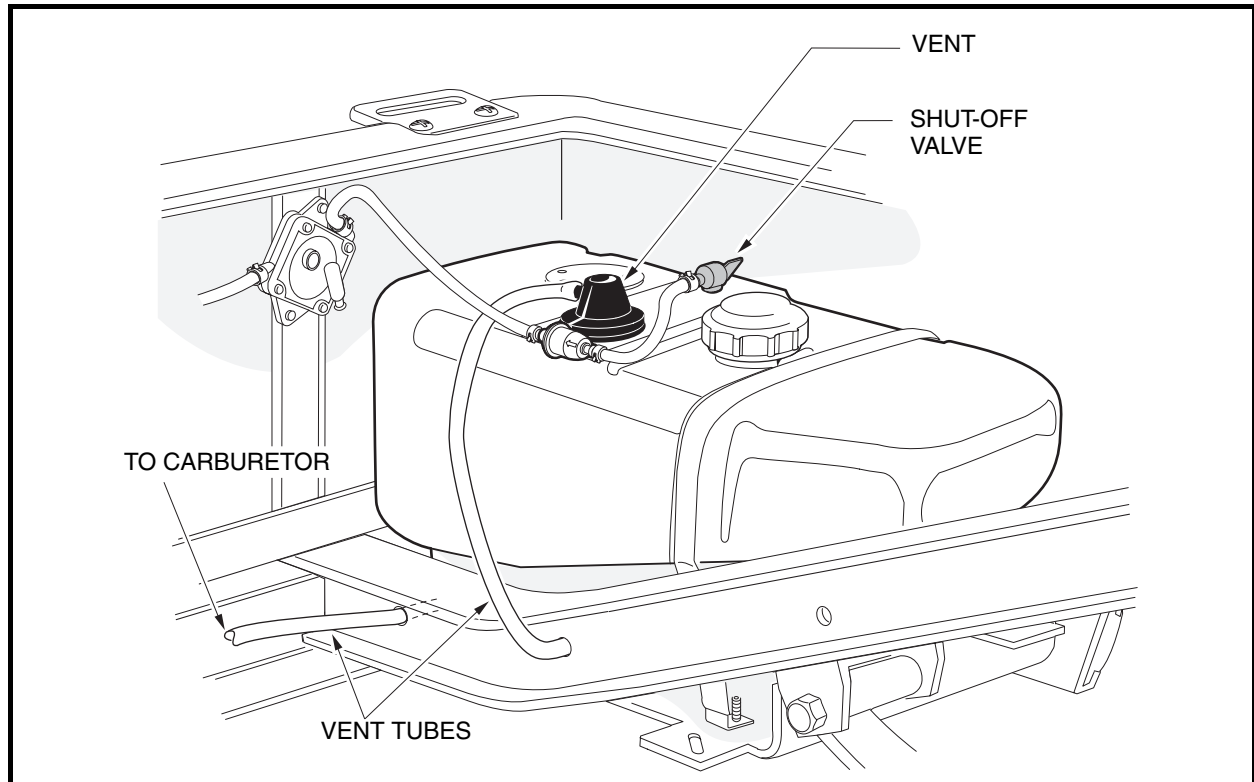
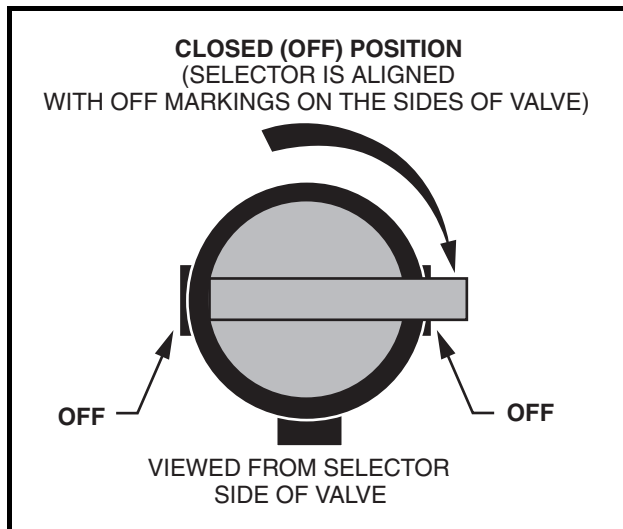

Figure 14-14 Fuel Tank
Figure 14-15 Closed Fuel Shut-off Valve
3. Turn fuel shut-off valve to the closed (OFF) position and run the engine until fuel remaining in the carburetor, fuel pump, and fuel lines is used up and the engine stalls (**Figure 14-15, Page 14-24**).
The fuel shut-off valve is located on top of the fuel tank (**Figure 14-14, Page 14-23**). The fuel shut-off valve should always be turned to the closed (OFF) position during vehicle storage, towing or trailering (**Figure 14-15, Page 14-24**). Unless the engine will be run as part of a procedure, the fuel shut-off valve should also be closed (OFF) before performing maintenance or service procedures.